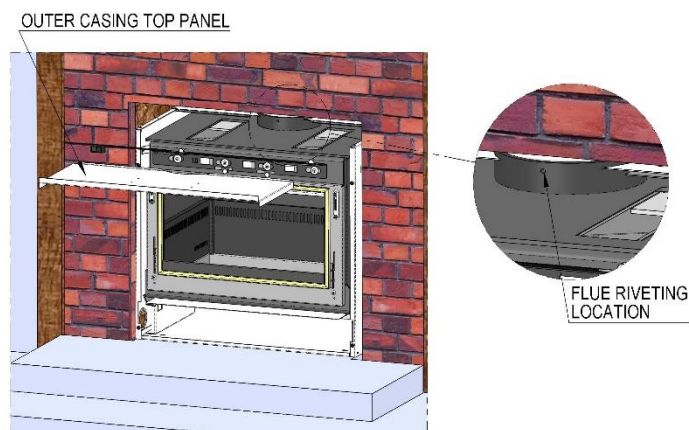

Fig. 10
- Ensure wiring for fan (Fig. 10) is taken into account when preparing cavity.